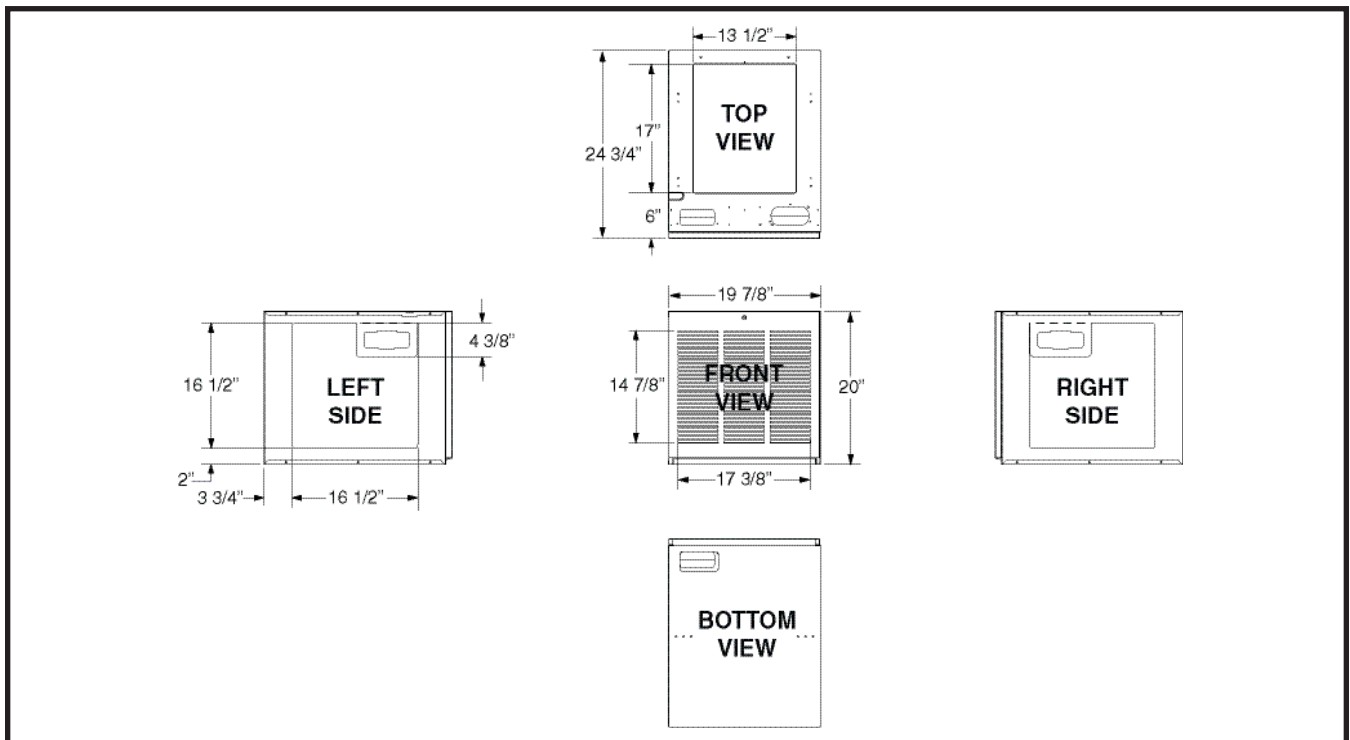

Figure 20. E3 Furnace Upflow Stand Dimensions
It is recommended that the line voltage (240 VAC) to the furnace be supplied from a dedicated branch circuit containing the correct fuse or circuit breaker for the furnace. For minimum circuit ampacity and maximum over-current protection, see Table 7 (page 19). See unit wiring diagrams (Figure 23, Figure 24, Figure 25, & Figure 26) for wiring details. Electrical components are shown in Figure 20 (page 17). Supply circuit requirements are listed below:
6. Connect service ground wire(s) to grounding lug(s) provided. One ground is required for each supply circuit used. See Figure 20 (page 17).